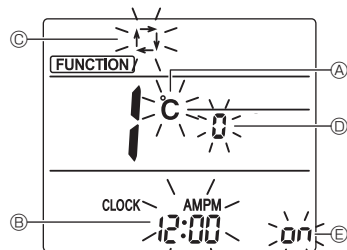

Fig. 4-8
The Screen display setting screen will be displayed. (Fig. 4-8)
4.9.2. Changing the temperature unit (Fig. 4-8 Ⓐ)
- Press the **TEMP** button ⑤.
- Each time the **TEMP** button ⑤ is pressed, the setting switches between °C and °F.
4.9.3. Changing the time display (Fig. 4-8 Ⓑ)
- Press the **TIME** button ⑥.
- Each time the **TIME** button ⑥ is pressed, the setting switches between 12:00^{AMPM} and 24:00.
4.9.4. Changing the AUTO mode (Fig. 4-8 Ⓒ)
- Press the **—** button ⑦.
- Each time the **—** button ⑦ is pressed, the setting switches between  and .
4.9.5. Changing the pair No. (Fig. 4-8 Ⓓ)
- Press the **UP** button ④.
- Each time the **UP** button ④ is pressed, the pair No. 0-3 changes.